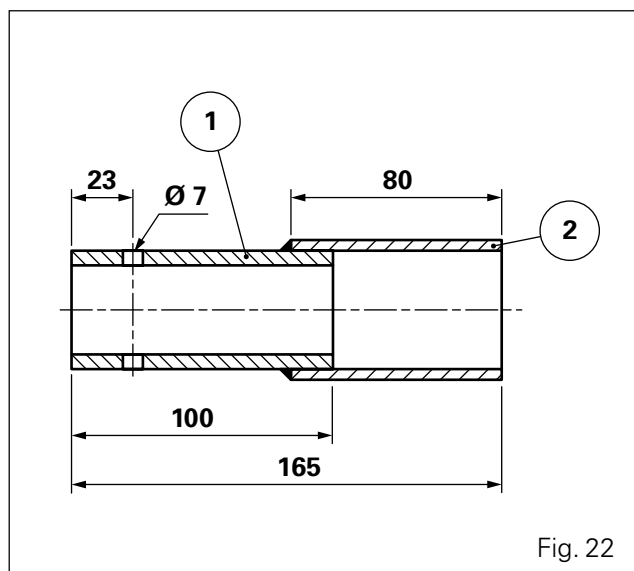

Fig. 22
- Sleeve for removing and refitting the clutch assembly (Fig. 22)